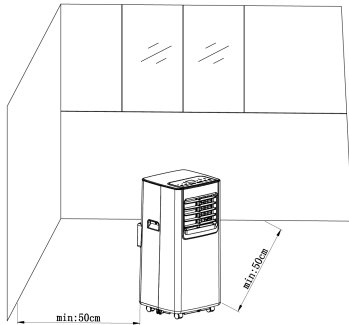

Fig. 1
- The product must be free with a gap of at least 50 cm to other objects or obstacles. The air outlet openings (2) must be directed into the room. See Fig. 1.